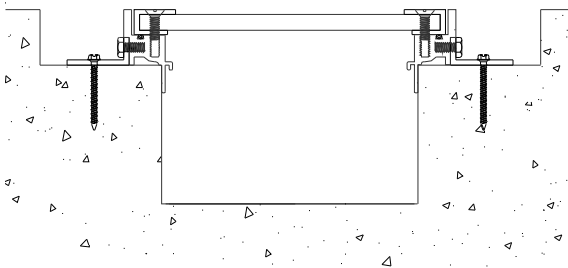

Figure 5
STEP 5. Place the trench cover back into its installed position. Ensure that the trench cover is level, flush, and properly aligned. Using the fasteners provided by the factory, attach the trench cover system to the substrate, see Figure 5.